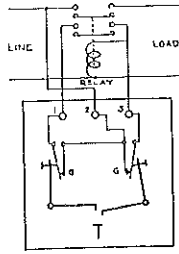

Fig. 1
- (1) Differential control for either two or three wire control devices (see figs. 1 and 2 on page 3).